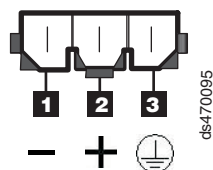

Figure 93. DC power supply connector - PIN positions
2. Connect the DC power cable to the power supply. See Figure 93 for the DC power supply connector PIN positions.